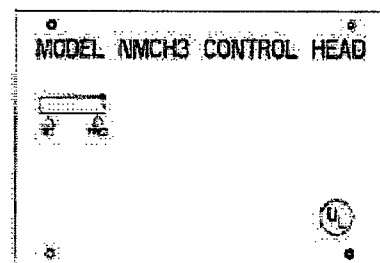

FIGURE 7
The Model NMCH3 Mechanical Control Head is a fully mechanical control head which can be connected to the A-15/17/25/35/50/70 tank valve. This control head will support a fusible link detection system, a remote mechanical pull station (Model RPS-M), and an electric shut-off valve. A micro switch (Model MS-SPDT, MS-DPDT, MS-3PDT, or MS-4PDT) can be ordered separately and field installed. There is no local manual actuation for the Model NMCH3. The Model NMCH3 control head can actuate a maximum of five (5) tanks. See Figure 7.
Begin installing links at the terminal bracket. The link is connected to the far side of the terminal bracket using an "S" hook. The "S" hook must be crimped closed after the link is installed. A tight loop is then made in the cable and secured by the crimp provided. This loop is connected to the other side of the terminal link (see Figure 7) and the cable fed through the conduit to the next bracket. The cable